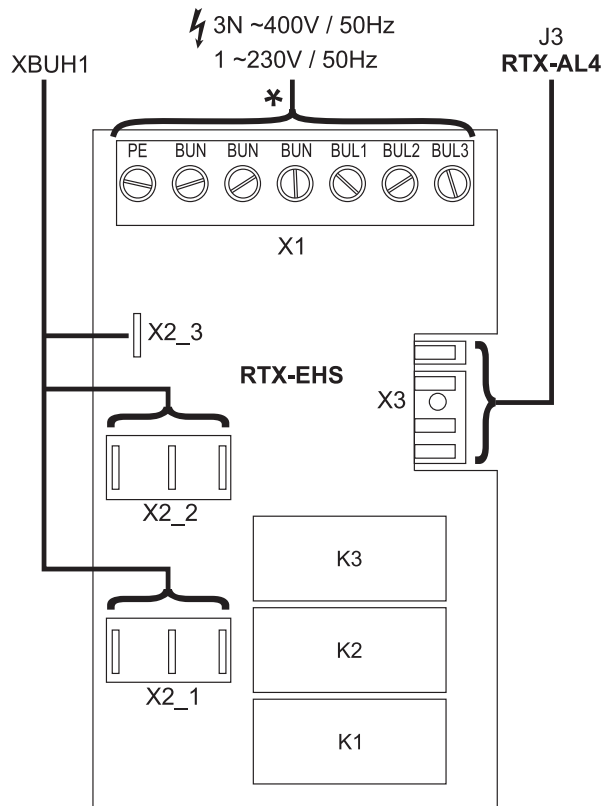

Fig. 3-11 Circuit board RTX-EHS (backup heater)
- Connect the backup heater (EKBUxx) to the RTX-EHS terminal block (figure 3-11) of the Daikin Altherma EHS(X/H).